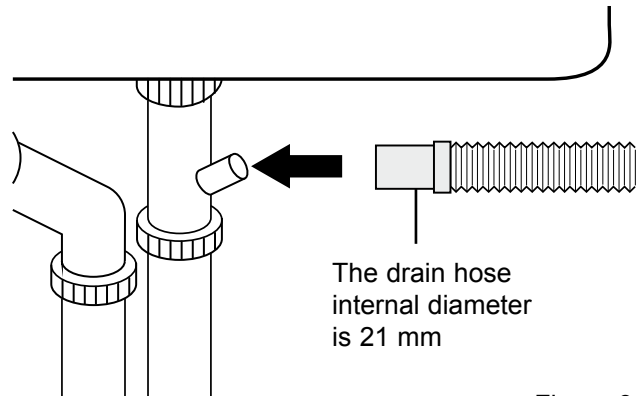

Figure 8
3. Check the size of the sink's drain hose connector (21 mm- as shown in Figure 8 below). If the end of the drain hose does not fit onto the drain hose connector of the sink, use an adaptor purchasable at a plumbing/hardware supply store.